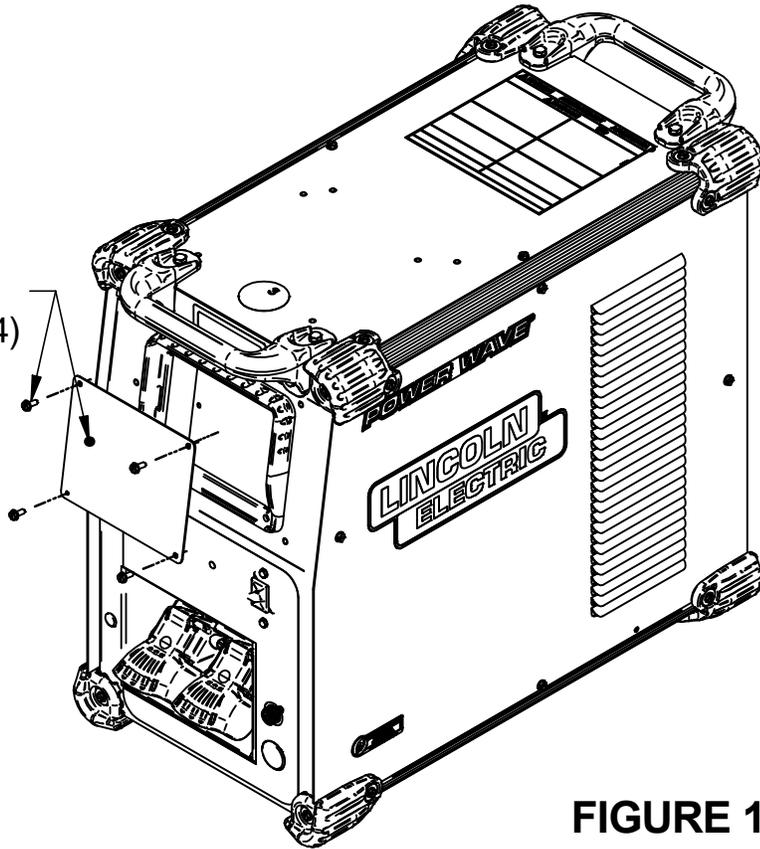

FIGURE 1
3. Remove the UI cover plate by removing the four screws fastening the cover plate to the power source using a 5/16" nut driver or other suitable tool (**Figure 1**). Retain the mounting hardware removed for installing the Power Wave Communication Kit.